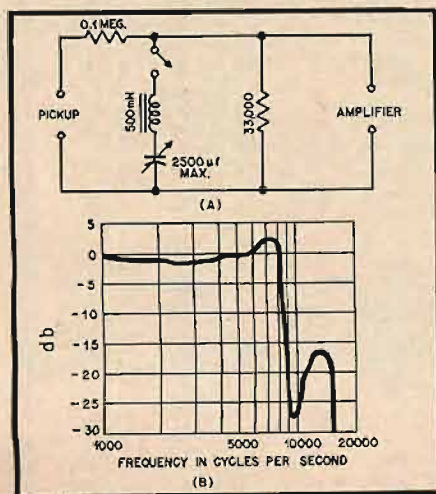

Fig. 2.
A pickup whose upper resonance is above 14,000 cps is expensive, and also involves added amplification due to relatively low output. The solution to the resonance problem proposed here is the use of an anti-resonant electrical circuit, shown in (A) of Fig. 2. The improvement in pickup performance from the original response is evident from the graph in (B).